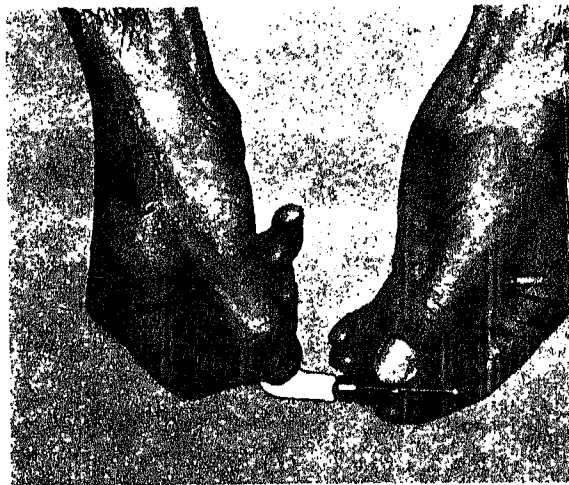

Fig. 3-1-2. Checking rocker lever adjusting screw ball end
4. The ball end of rocker lever adjusting screw must be a true sphere. Test with  $\frac{1}{4}$  in. [6.3500 mm] radius gauge. Replace if flat at bottom or there is evidence of scratching or galling. Fig. 3-1-2.